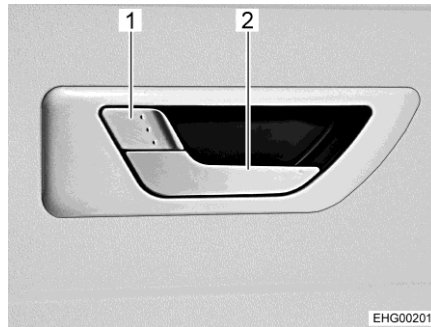

Fig. 52 Door lock (living area door, inside)
- When the door lock is locked: Pull the long door handle (Fig. 52,2). The door is unlocked and open.
- Press the short door handle (Fig. 52,1) of the closed door.